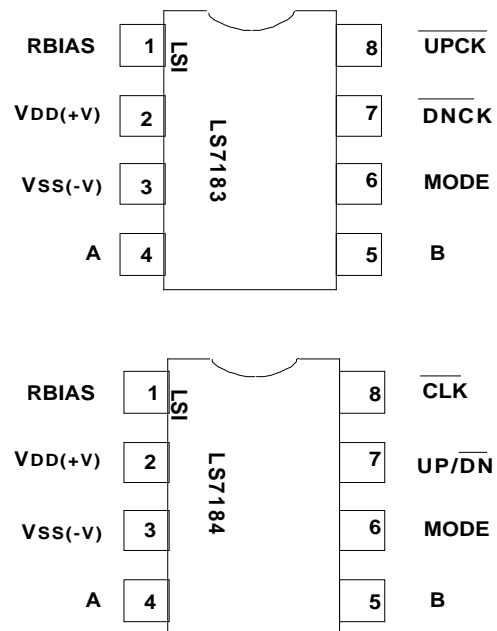

FIGURE 1
- LS7183-S, LS7184-S (SOIC) - See Figure 1